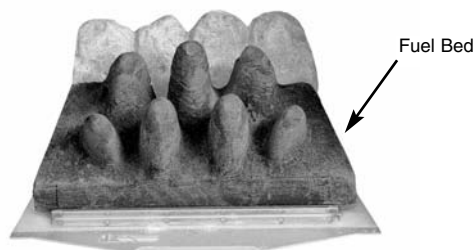

Fig. 25
2. Place the main fuel bed on to the middle section of the metal burner tray. It is important that the front edge of the fuel bed is located behind the burner strip (Fig. 25).